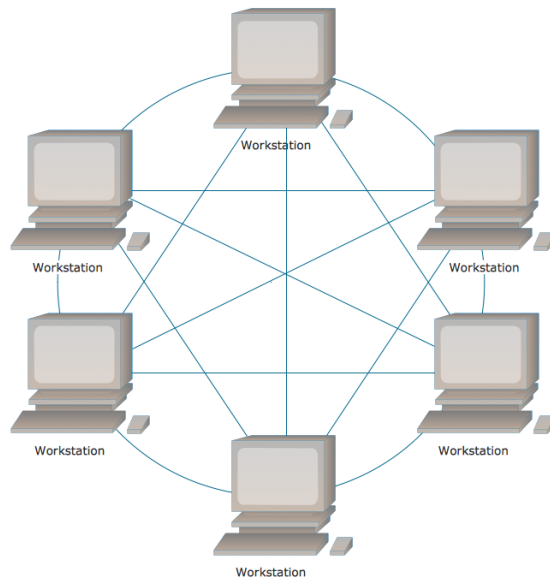

Figure 9: Diagram of a Directly Connected Network
- \* See figure 9 for a diagram